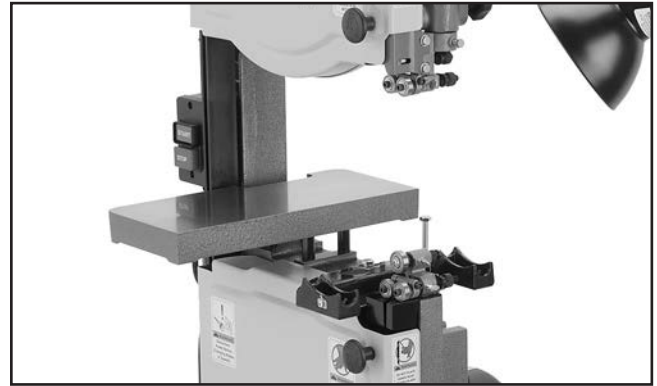

Figure 12. Extension table installed.
- Attach extension table to lever board with (4) M6-1 x 25 cap screws, (4) 6mm flat washers, and (4) 6mm lock washers (see **Figure 12**). Only thread cap screws in halfway for now (adjustments to extension table will be made later).